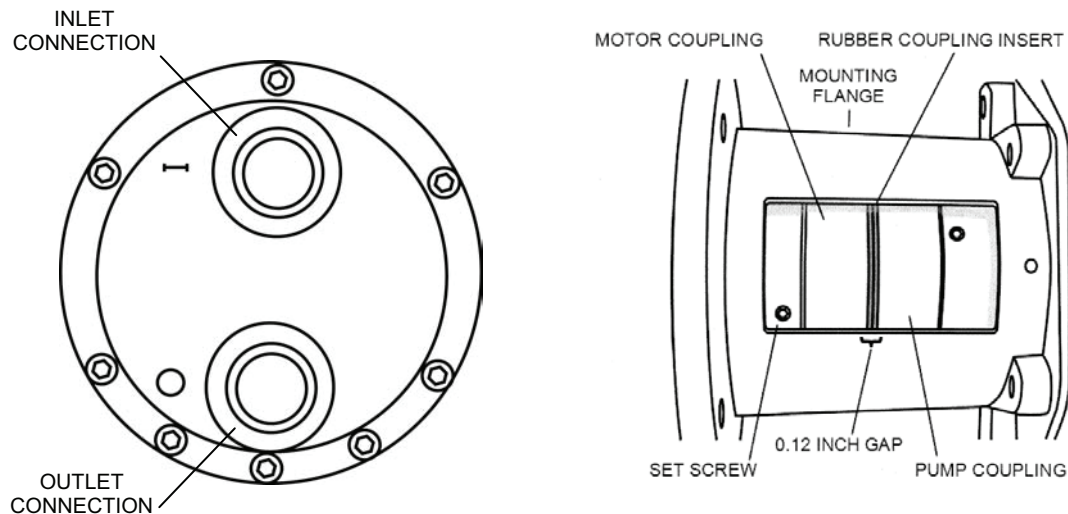

Figure 19. Pump Inlet and Outlet Connections.
- d. Position the pump with the inlet (stamped "I" on the port flange) at the top and the outlet (stamped "O" on the port flange) at the bottom (see Figure 19).
- g. Check that there is a 0.12 in. (3mm) gap between the motor and pump couplings (see fig. 19). Move the motor coupling as necessary to check that the coupling insert is not pinched or compressed.